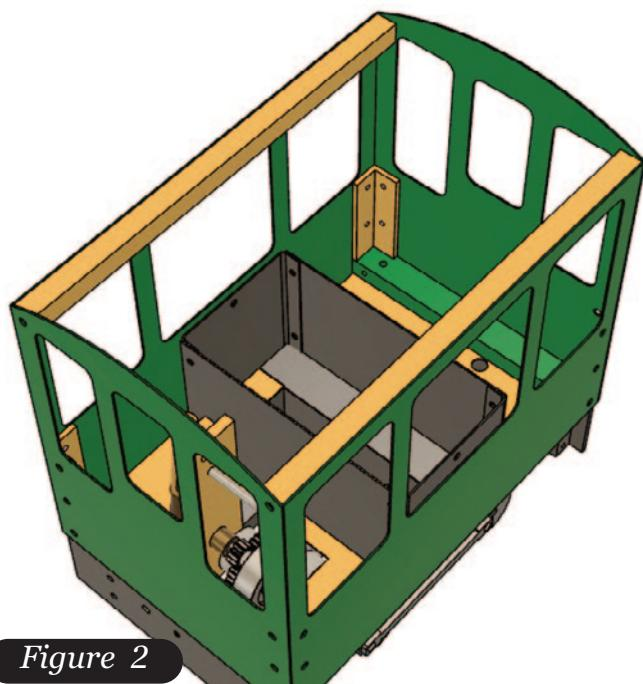

Figure 2
**Supports** as well as the sheet metal hold down brackets. When all the holes are filled with screws you can snug them all down. The renderings (**Figures 2 & 3**), show how the cab comes together.